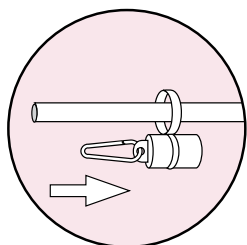
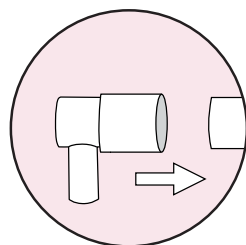
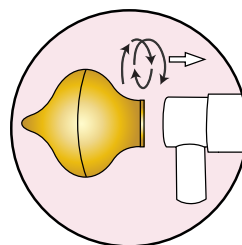

Fig 3a,
Fig 3b,
Fig 3c,
- 4, Place weight over pole (see fig 3a), mount rotating joint onto top of pole (see fig 3b), screw on finial. (see fig 3c)